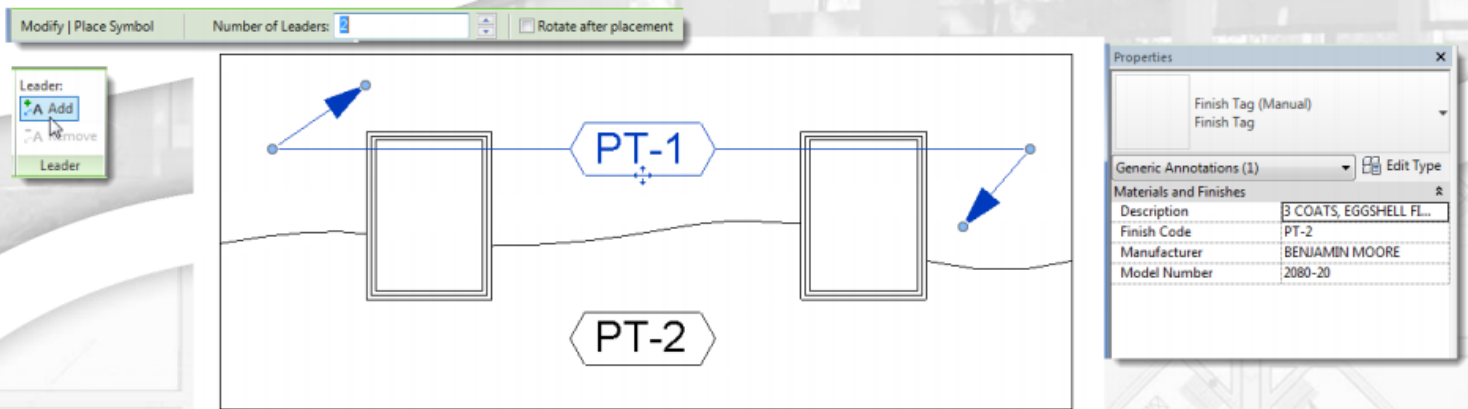

FIGURE 23 - ADD LEADERS WHILE PLACING SYMBOLS OR ADD THEM LATER
- Like other annotation, you can select the symbol after you place it and then use the tools on the ribbon to add leaders if required. You can also add leaders while placing it on the Options Bar (see Figure 23).